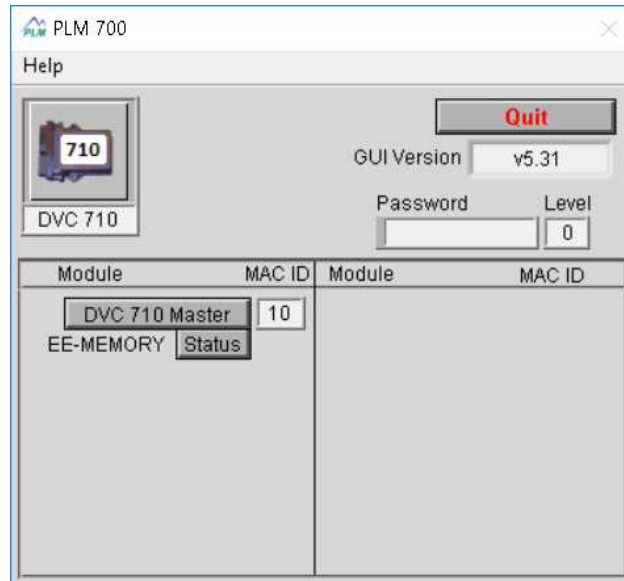

Figure 14 – Program Loader Monitor (PLM700)
- 4) A window called "PLM 700" should appear (see Figure 14).